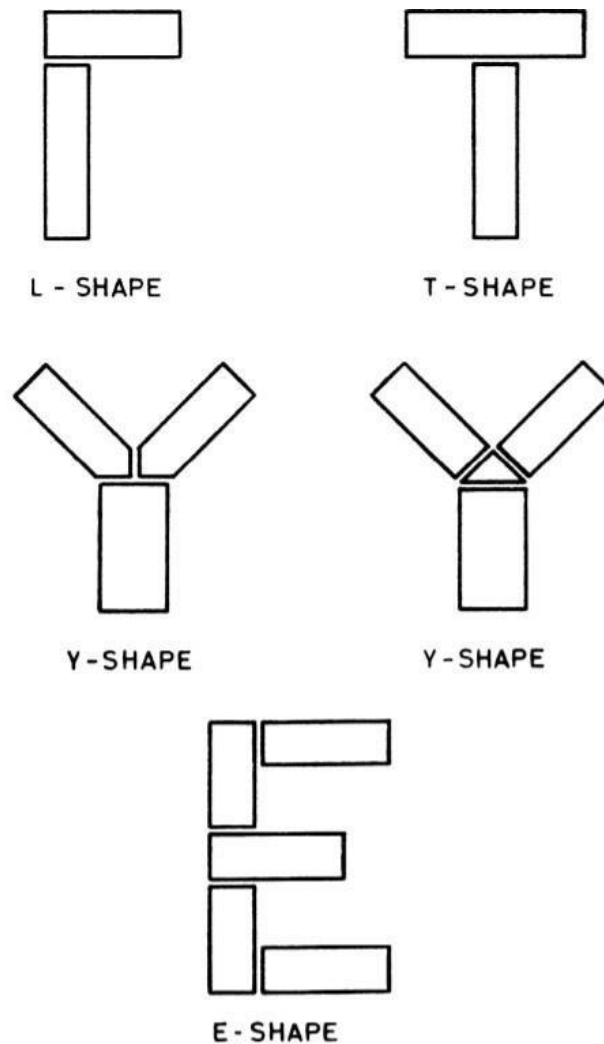

FIG. 1 TYPICAL SHAPES OF BUILDING WITH SEPARATION SECTIONS
3. Buildings having plans with shapes like L, T, E and Y shall preferably be separated into rectangular parts by providing separation sections at appropriate places. Typical examples are shown in Fig. 1.